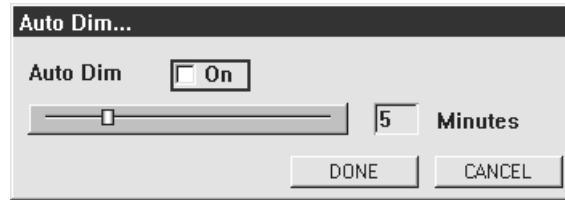

Figure 28: Auto Dim dialog
- 4 Press the rotary control knob a second time to open the Auto Dim dialog (Figure 28, page 56).